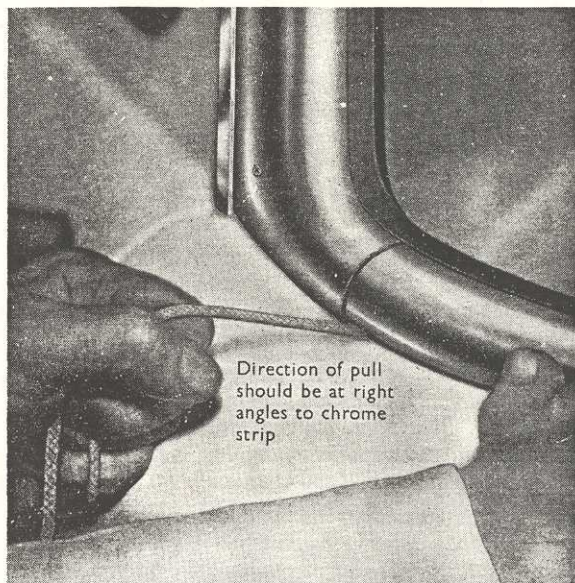

Fig. 14
17. Using the length of tube previously described, fit a length of cord in the weatherstrip groove which accepts the lower transverse moulding. Fit these lower transverse mouldings approximately  $\frac{1}{2}$  in. inside the vertical mouldings, then pull the drawcord downwards and at right angles to the weatherstrip (see Fig. 14), at the same time pressing hard on the transverse moulding, to secure the lip on the chrome moulding into the weatherstrip.